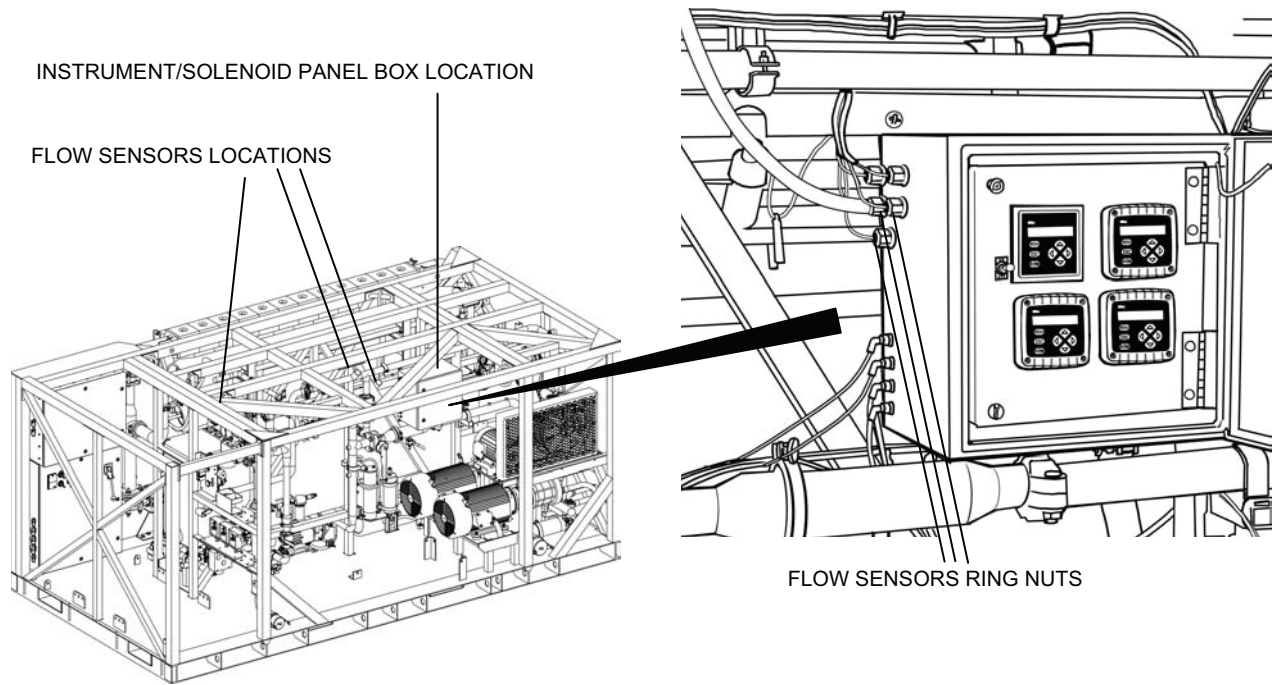

Figure 5. Flow Sensor and Instrument/Solenoid Panel Box Location.
3. Mark the sensor cable routing from the sensor to the transmitter in the Instrument/Solenoid Panel Box (see Figure 5 for the sensor and box locations).